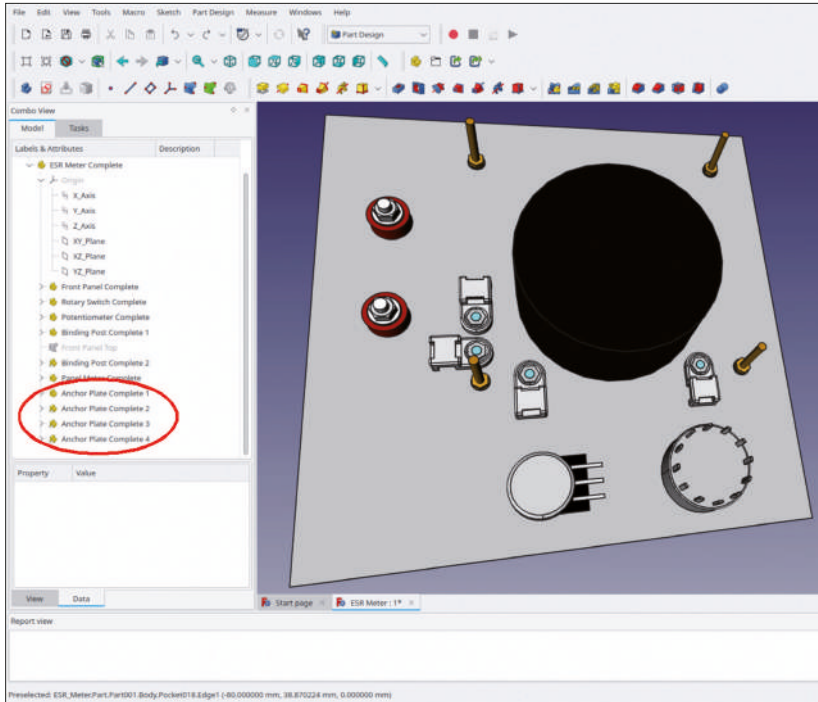

Figure 7-46
8. In a similar way, create the anchor plates 3 and 4. The result is shown in Figure 7-46.